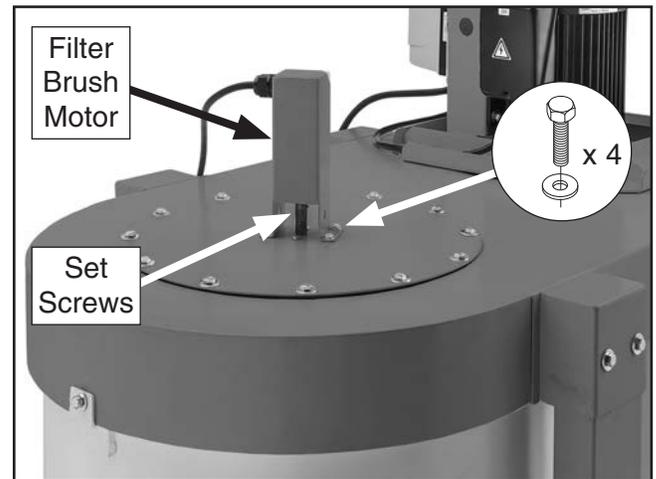

Figure 30. Filter brush motor attached to filter cover plate.
30. Attach filter brush motor to filter cover plate (see **Figure 30**). Secure with (4) 1/4"-20 x 3/4" hex bolts and (4) 1/4" flat washers.
31. Tighten (2) set screws on motor spindle (see **Figure 30**).